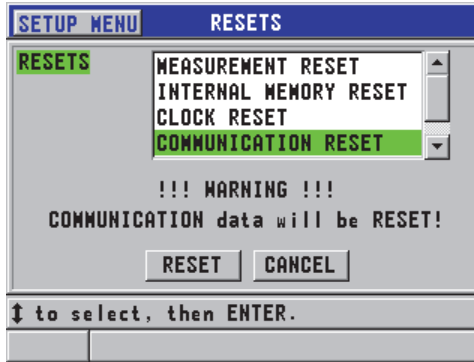

Figure 11-6 Selecting COMMUNICATION RESET
2. In the **RESETS** screen (see Figure 11-6 on page 197):